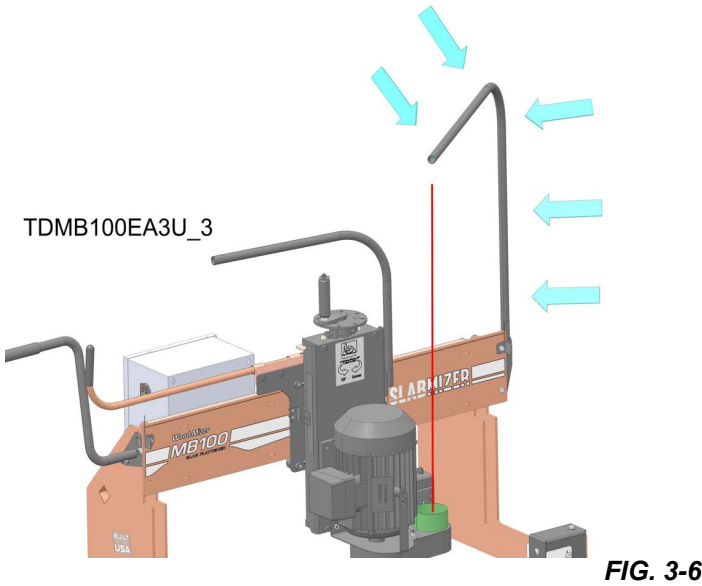

FIG. 3-6
1. Place (2) M12 -1.75x 30 carriage bolts in square holes on side of gantry opposite vacuum hose arm.
2. Align mounting holes as shown in FIG. 3-6.
3. Fasten with (2) M12 Flat Washers and (2) M12 Nylock Hex Nuts.
Secure the Vacuum Hose to the Vacuum Hose Arm using appropriately sized hose clamps or zip ties. (Minimum 5 locations as shown in FIG 3-6).